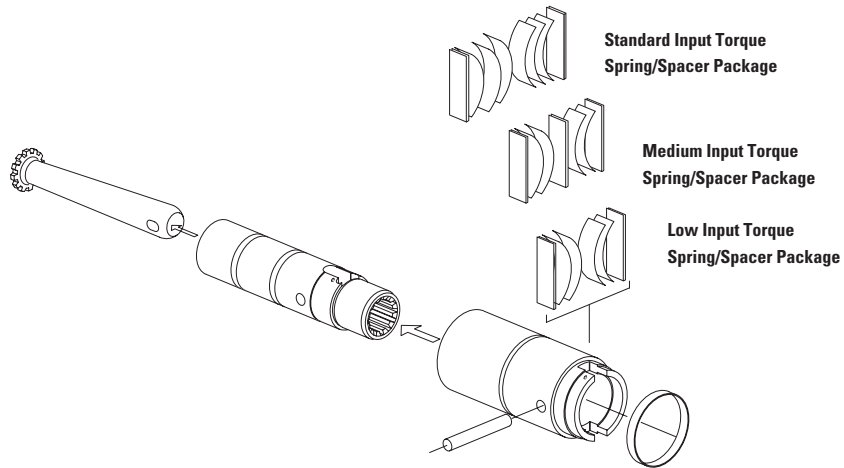

Figure 7
23. Push spool partially from control end of sleeve, then carefully remove centering springs and retaining ring from spool by hand (figure 7).